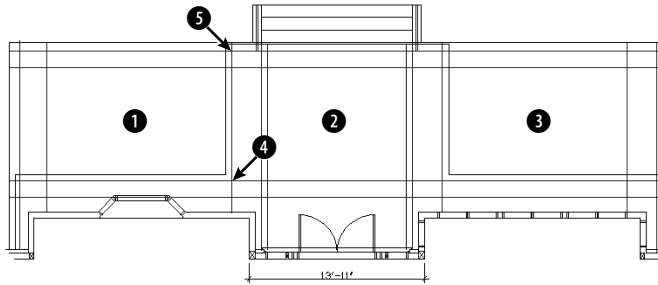
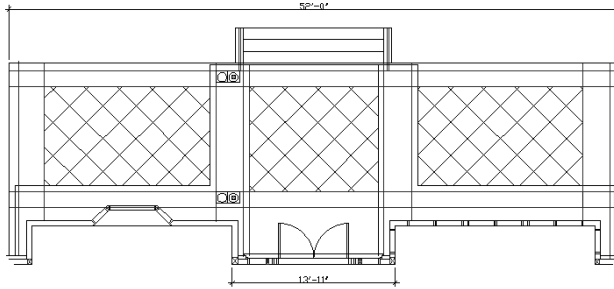

**Figure 26-8:** This back porch needs some columns (which are blocks), some hatching, and a dimension.
**Figure 26-9:** The drawing now has hatches and blocks inserted from the tool palette. It also has a new dimension.
2. Save the file as `ab26-02.dwg` in your AutoCAD Bible folder. This drawing, shown in Figure 26-8, needs some blocks and a hatch pattern inserted. You'll also add a dimension.
13. Drag the User Defined hatch icon to ❶ in Figure 26-8. Then do the same for ❷ and ❸. These areas are hatched, as shown in Figure 26-9.
16. Switch back to the 2d arch tab and click the Post icon. At the Specify insertion point: prompt, pick the intersection at ❹ in Figure 26-8. Click the Post-Structural icon. At the prompt, pick the upper-right corner of the post block, as shown in Figure 26-9.
17. Click the Post icon. At the prompt, pick ❺ in Figure 26-8. Use the same technique to place the Post-Structural icon at the upper-right corner of the post block. (The posts would then need to be spaced and mirrored to the other side of the porch, but these tasks are not necessary for this exercise.)
20. Save your drawing. It should look like Figure 26-9.